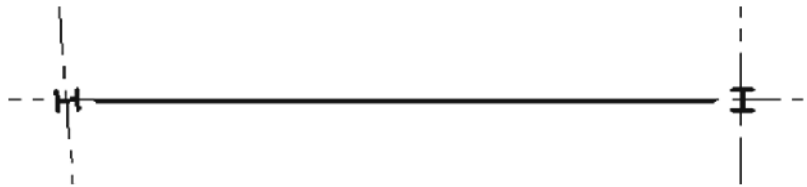

Figure 7–72
3. In a plan view, which of the following changes the display to show the stick symbol for beams, as shown in Figure 7–72?